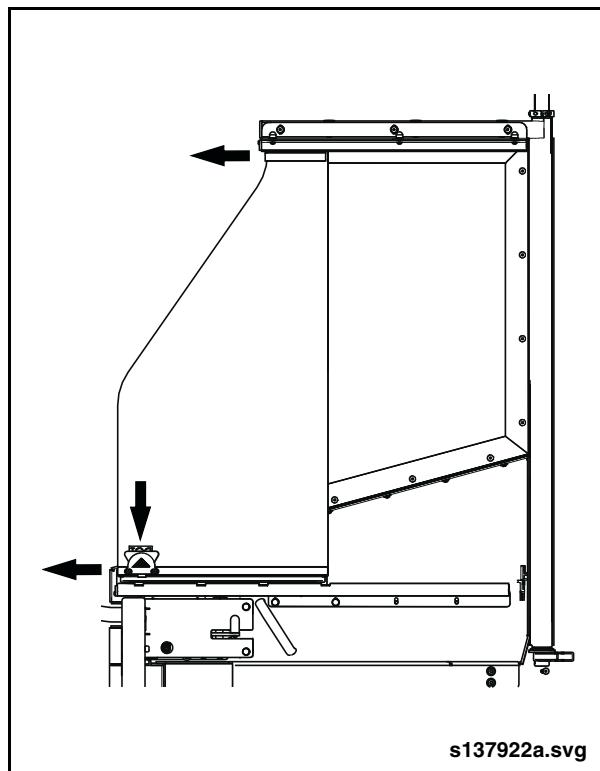

Fig. 17-21: Sliding Sash Replacement
1. Remove upper and lower stop plates. See "Fig. 17-21: Sliding Sash Replacement" on page 22.